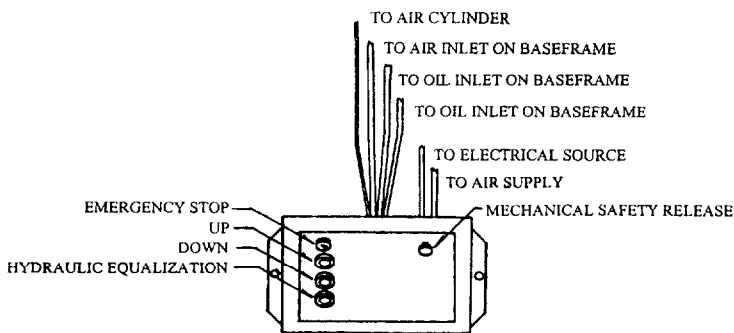

Figure 3: Hydraulic/Air Connections
3. Remove the two (2) hydraulic hoses, one (1) braided hose, and one (1) polytube from the console. Refer to **Figure 3**. Route all four (4) hoses to the inlet ports located on the left side of the left main frame assembly.
NOTE: Refer to Figure 3 for location of the Hydraulic Equalization Button.